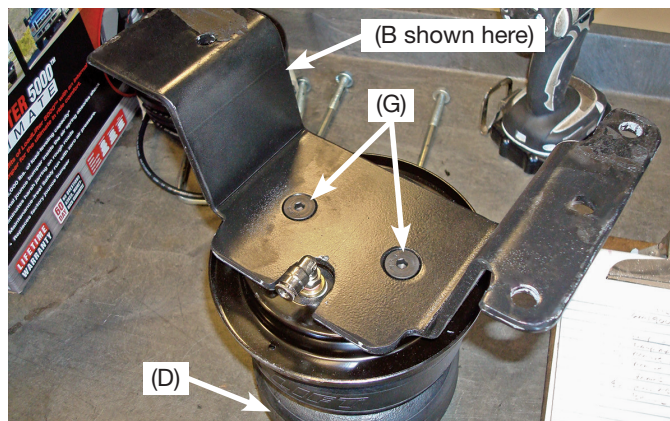

fig. 13
2. Install the swivel fitting (F) into the top of the air spring finger tight plus one and a half turns. Do not overtighten.
3. Install the upper bracket (A or B) onto the air spring (D) using four flat-head screws (G) (fig. 13). Torque to no more than 20 lb.-ft. (27Nm).